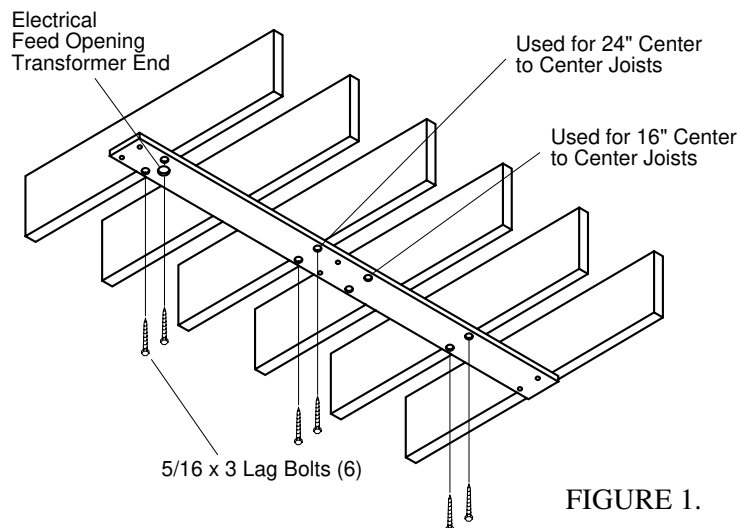

FIGURE 1.
- 1) In conventional ceilings with joists perpendicular to center line of light, attach pallet by at least 6 - 5/16 x 3" lag screws. Suitable holes are provided in pallet for most installations, utilizing 16" or 12" cc ceiling joists. For other spacings or locations, additional holes can be cut in pallet. (SEE FIGURE 1.)